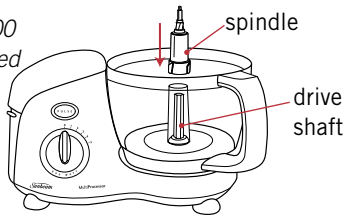

Fig 6
1. Fit the spindle onto the drive shaft, see Figure 6.